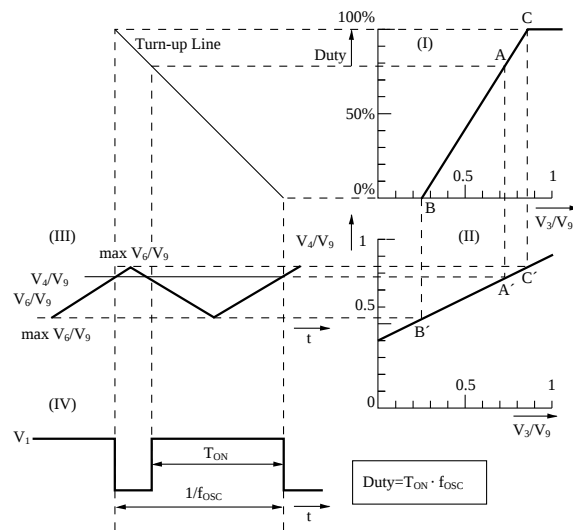

Fig. 2 I/O Characteristic Chart
The PWM method is used to control the output transistors. This method, as shown in Fig. 2 I/O Characteristic Chart (III), generates the triangular wave V_6 as a reference signal
For your refence, Fig. 3 shows the relations among C_T , R_T , and oscillation frequency f_{OSC} . The voltage V_4 , whose voltage level is made matching the amplitude of the triangular wave by the control voltage converter, is given to the other input (Pin4) of the PWM comparator. That is, in Fig. 2 (II), the input voltage V_3 is linearly converted into V_4 by the control voltage converter so that the amplitude of the triangular wave will be about 20% to 80% of the input voltage input range (axis of abscissas in Fig. 2 (II)).
Then, a current is supplied from the output Pin1 to turn on the output transistors during the period (T_{ON}) when the inverted input voltage is larger than the triangular wave. (Fig. 2 (II), (IV)) To the contrary, while the converted input voltage is smaller than the triangular wave, no current is supplied from the output Pin1 and the output transistors are turned off. The output pulse duty is expressed as follows.